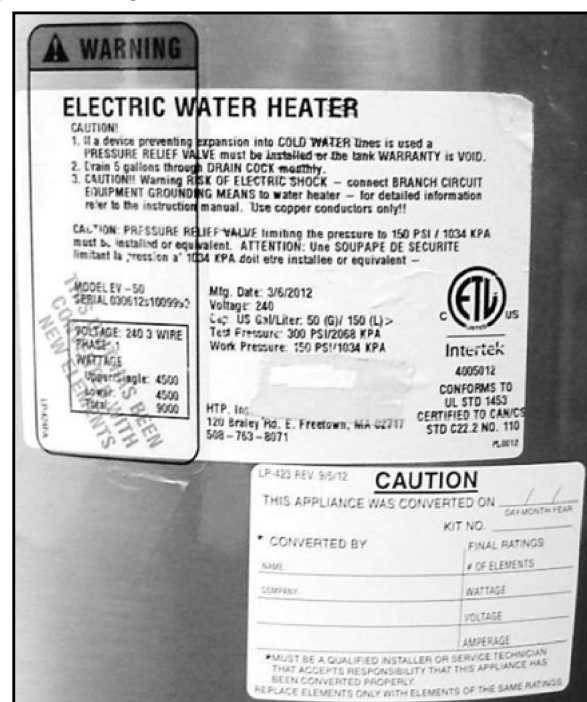

Figure 7 - Example of Conversion Label Replacement
- b. Place the clear warning label that states, **"THIS WATER HEATER HAS BEEN CONVERTED"** over the electric water heater rating label on the water heater. Ensure the original model and serial numbers remain exposed. See Figure 7.